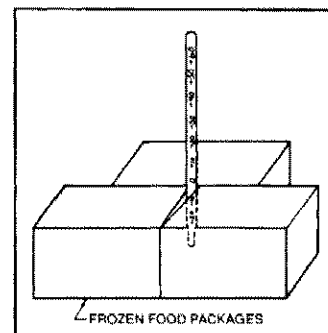

FIGURE 27
**FREEZER:** Place the thermometer in the center of the freezer, surrounded by frozen packages. See Figure 27. Wait 5 to 8 hours, then check the reading. If temperature is not within 0° to